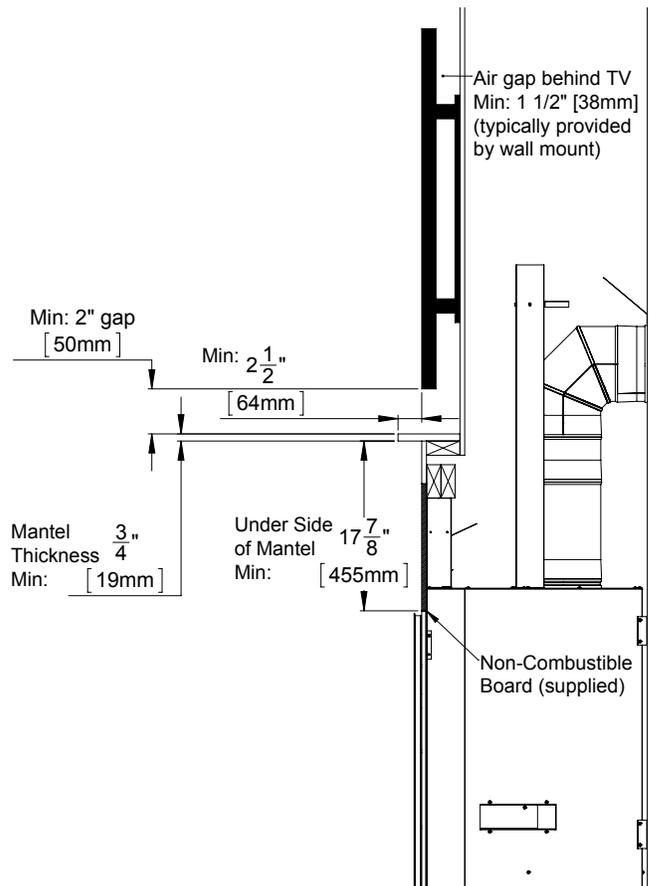

Figure 51. Installation Minimale de la Télévision Encastrée
**Recess/Manteau Installation:** Always maintain minimum recess and mantel clearances (see Figure 51). The total depth of the TV, including wall mount, and recess will determine the minimum allowable mantel protrusion.